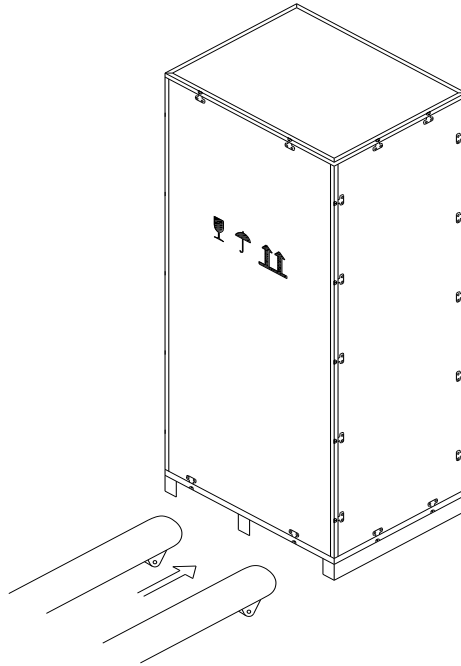

Figure2-3 Transport to the designated site
- 2) Transport the equipment to the designated site by forklift, as shown in Figure2-3.